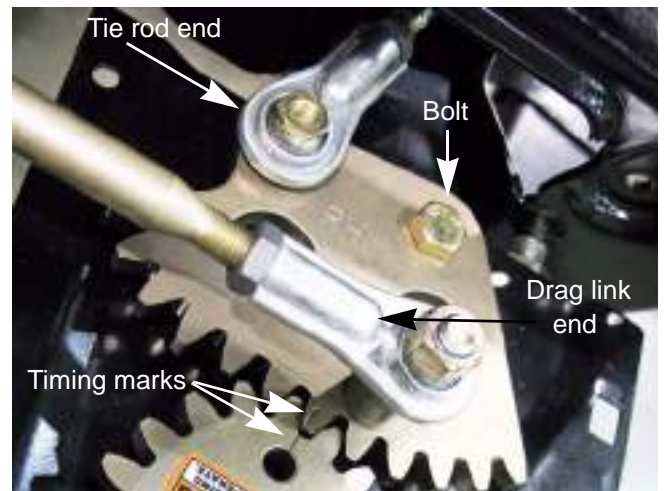

Figure 6A.88
3. Remove and discard the nut holding the drag link to the inboard steering gear using two 9/16" wrenches (one of them should be a slim-line wrench). See Figure 6A.88.